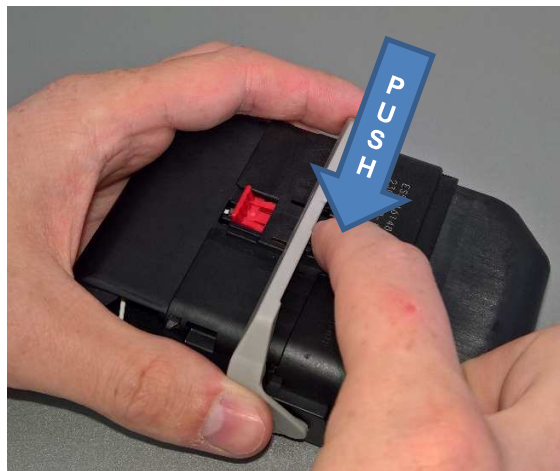

Figure 16
2. Depress connector latch as shown in Figure 16 until lever is free to rotate.